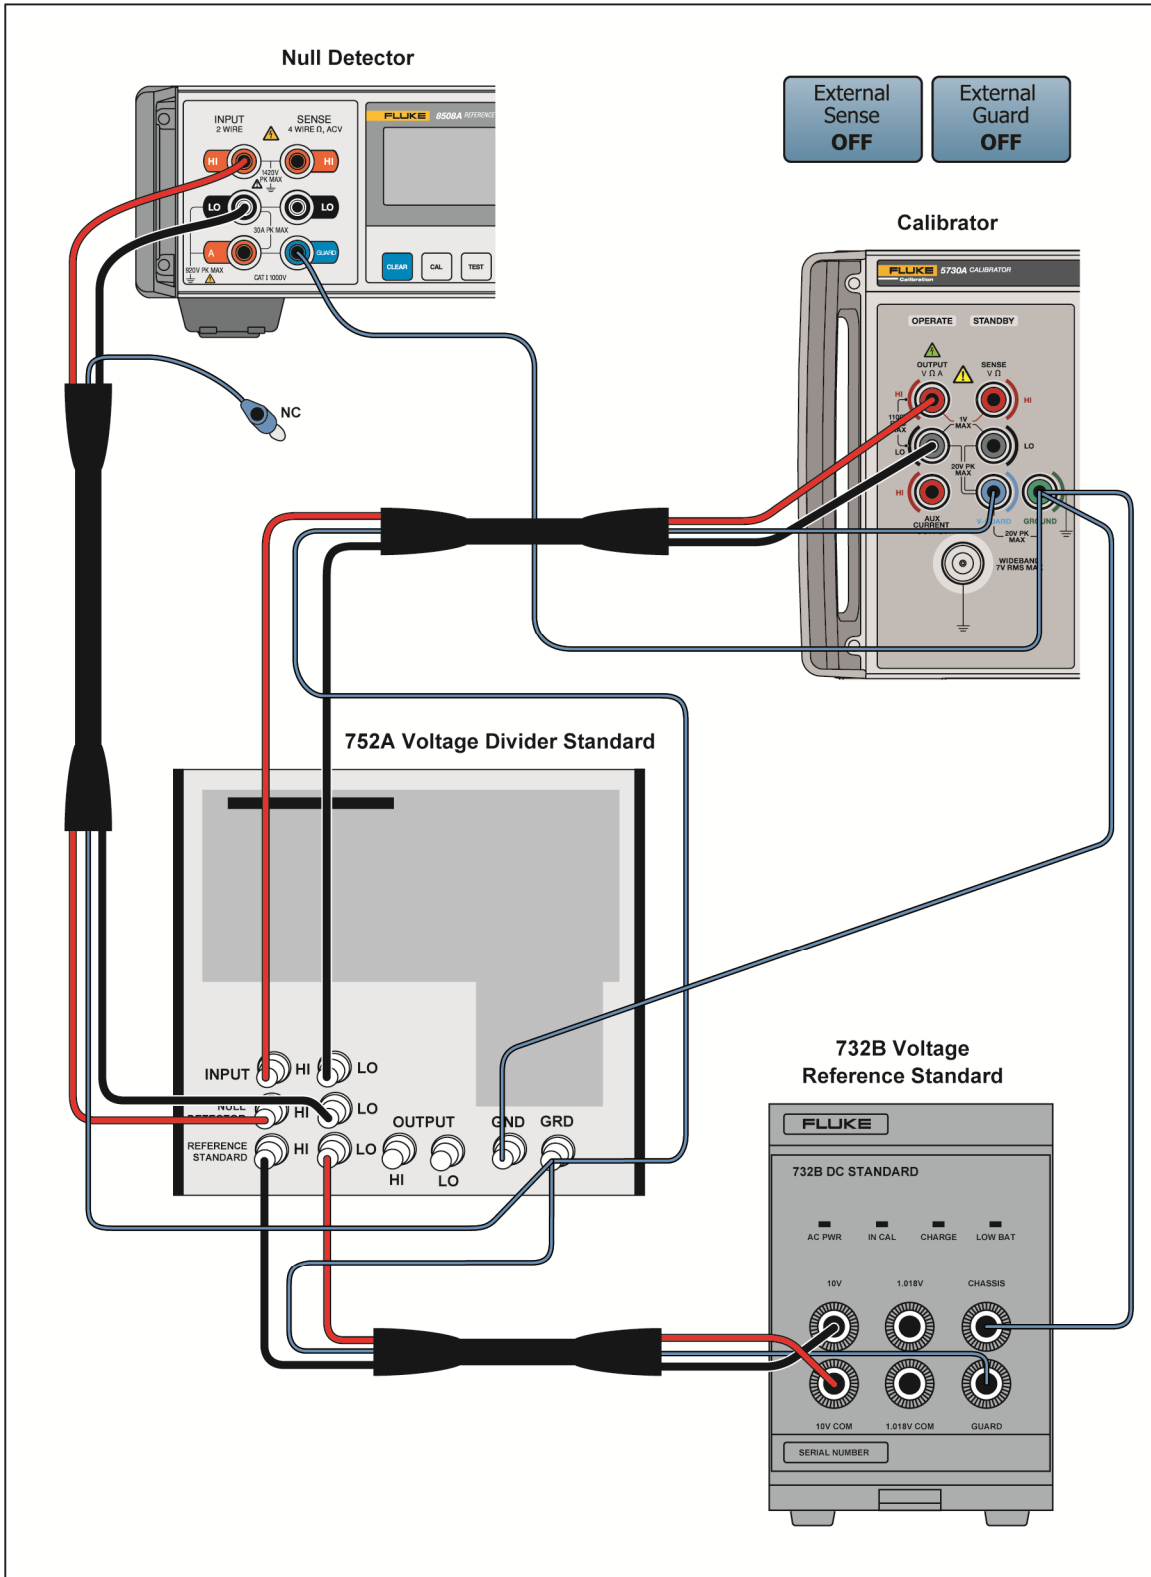

Figure 7-6. 220 V DC Range Calibration Connections
4. Connect the 732B, 8508A (Null Detector), and 752B in a 10:1 configuration, as shown in Figure 7-6.